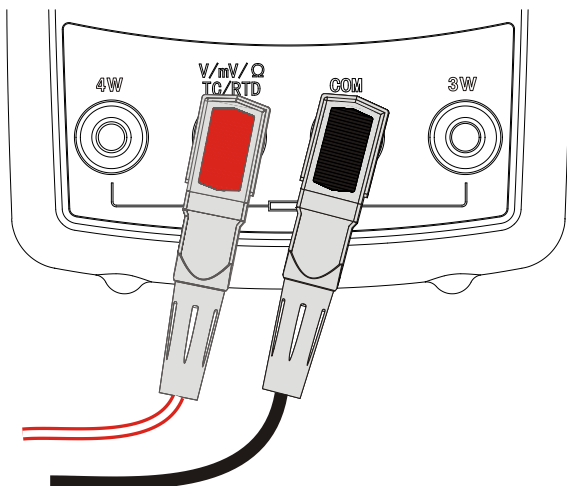

Figure 2.1-1
1. The connection of the calibrator as shown in Figure 2.1-1.